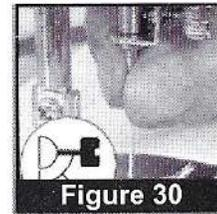

Figure 30
3. Insert a new needle in the clamp with the flat side toward the right. When the needle is firmly in place, tighten the needle clamp screw. (Figure 30)